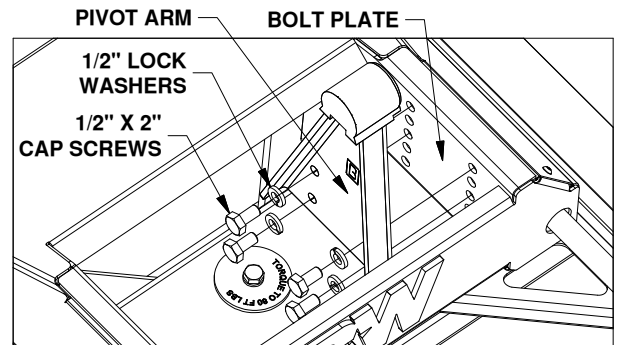

Figure C6: Looking inside the slider carriage.
- Secure arms.** With the flat side of the pivot arms against the bolt plate in the carriage, install four 1/2" x 2" cap screws and four 1/2" lock washers, see Figure C6. Torque each cap screw to 110 ft-lbs.